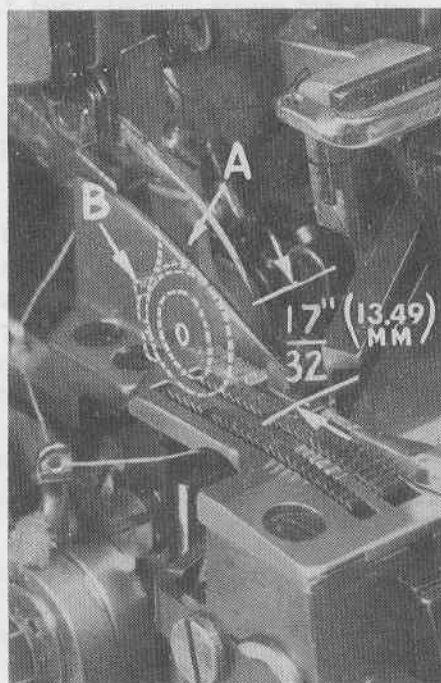

Fig. 4
With throat plate assembled in position, needle should center in the front end of needle slot. When needle is at high position, needle point should be set  $\frac{17}{32}$  inch (13.49 mm) above throat plate (Fig. 4), for Styles 39500 QG, RN and SD. This dimension should be  $\frac{1}{2}$  inch (12.70 mm) for Style 39500 TC. To align needle or set the height above throat plate, move needle driving arm (A, Fig. 4) by loosening clamp screw (B). Remove throat plate, after needle has been set properly and clamp screw (B) has been tightened.